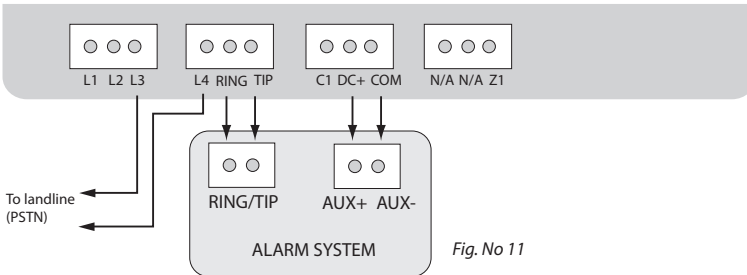

Fig. No 11
1. Connect the circuit as indicated in Fig. No. 11 – connect telephone contacts of the alarm system RING/TIP to RING/TIP contacts of communicator.